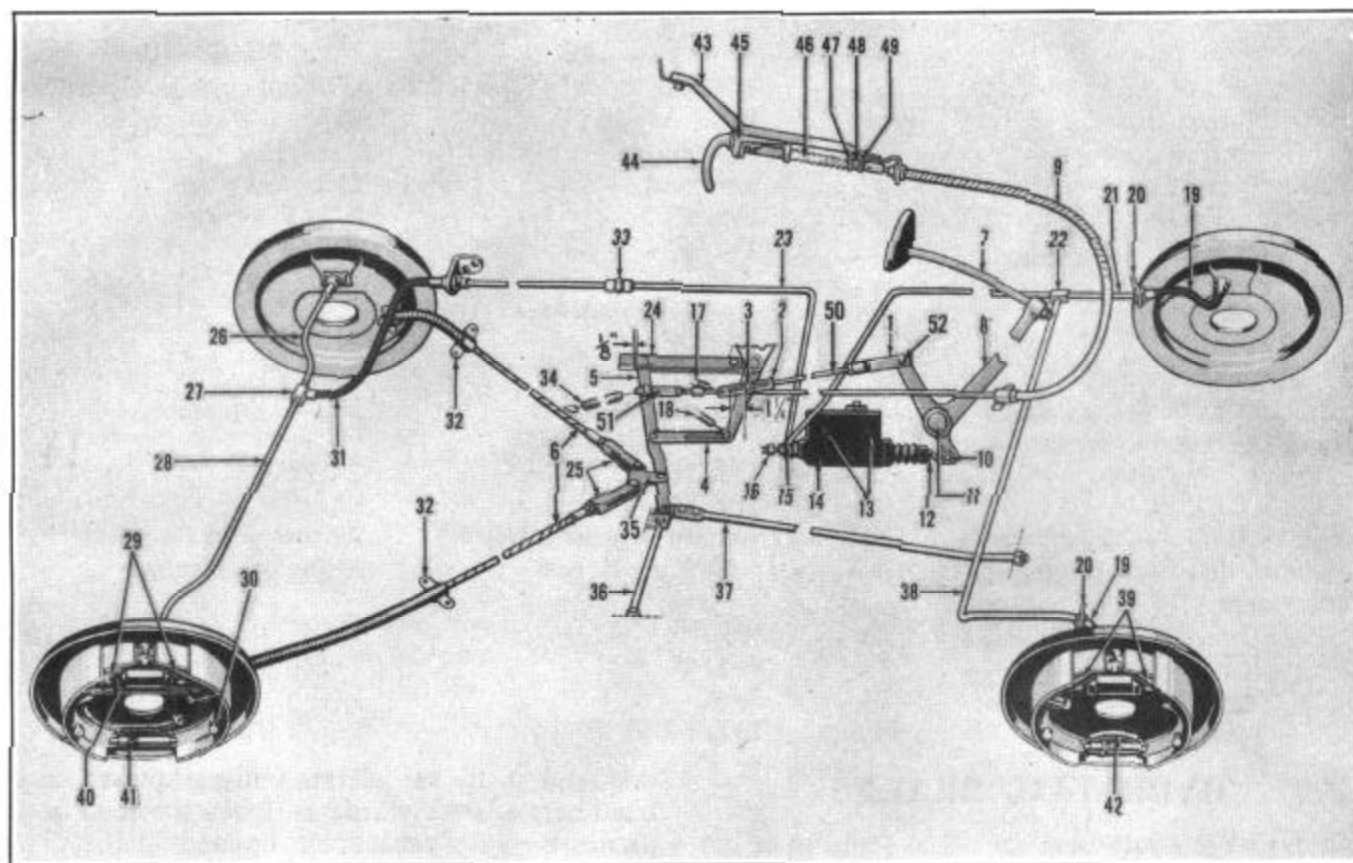

FIGURE 1
Mechanical brakes on rear wheels only. Should the hydraulic system become inoperative for any reason, continued pressure on the foot brake pedal causes the pedal pull rod (1) Figure 1 and link (2) to slide forward on anchor pin (3) pulling play link (4) and brake control lever (5) forward, transmitting mechanical braking power through cables (6) to the rear brake shoes.
To prevent operation of the mechanical brakes during the normal hydraulic operation, also to make certain proper action of the mechanical brakes, a clearance of 1-1/4" must be maintained between body of clevis pin (3) and rear end of slide link (2) as shown in Figure 1.
1. Disconnect stop light wires at stop light switch (16) Figure 1 and brake tubes at rear of master cylinder connector (15).
3. Remove cotter key and clevis pin (10) attaching master cylinder push rod (12) to pedal (8) and remove push rod (12).
4. Allow master cylinder (14) and bracket assembly to swing down and remove the two bolts (13), nuts and lockwashers attaching master cylinder to bracket.
1. Install master cylinder bracket and insert the two 3-1/2" long bolts (13) Figure 1 through bracket and master cylinder housing and tighten securely.
2. Attach the two brake tubes to master cylinder connector (15) and stop light switch wires to stop light switch (16).
3. Install master cylinder push rod assembly (12) to brake pedal lever (8) and insert clevis pin (10) and cotter pin. (Turn ends of cotter pin).